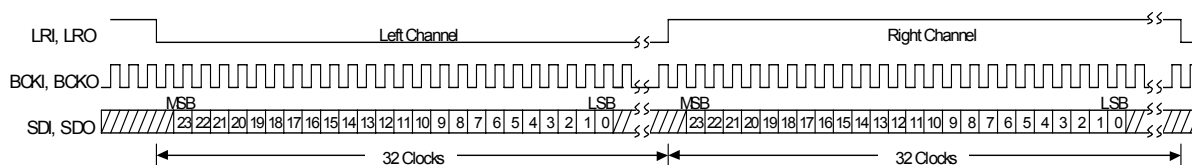
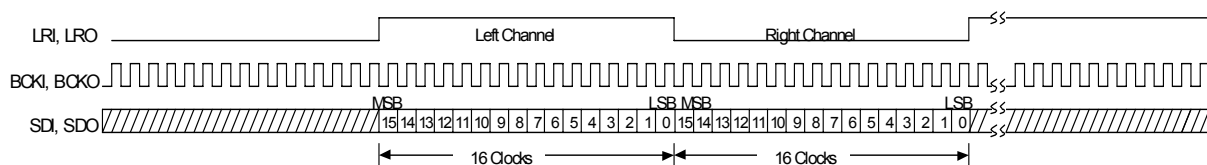

Fig.6-1 I²S Data Format 64fs, 24bit Data
Fig.6-12 Right-Justified Data Format 32fs, 16bit Data
The NJU26904 can use three kinds of formats hereafter as industry-standard digital audio data format; (1) I²S (2) Left-Justified (3) Right-Justified and 24 / 20 / 18 / 16bits data length. (Fig.6-1 to Fig6-12)